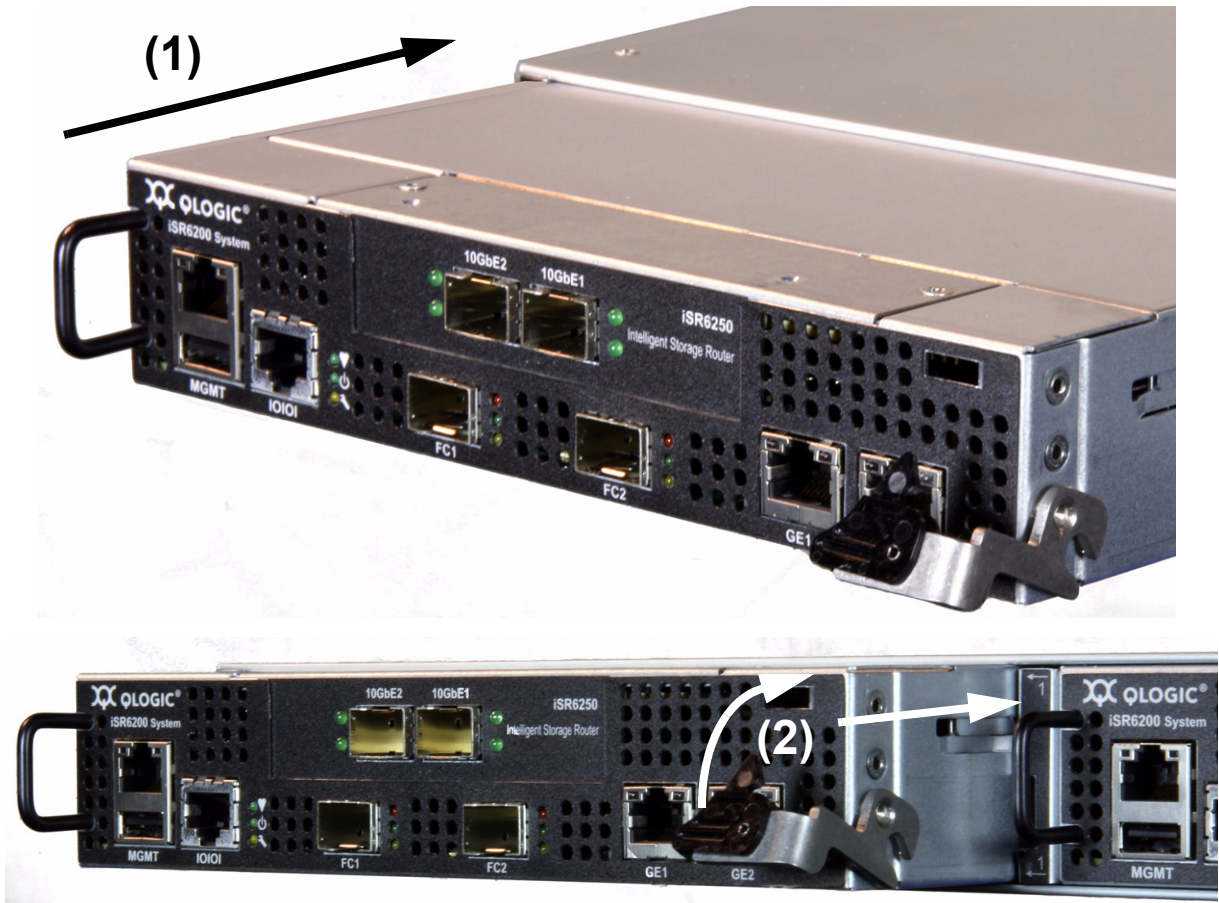

**Figure 6-4 Inserting the New Blade into the Chassis Slot**
2. Insert the new blade into the chassis slot. Figure 6-4 shows how to push the blade straight into the chassis (1), then seat the blade onto the chassis mid-plane by pushing the right side lever up and latching it into place (2). The blade will power on and boot up.